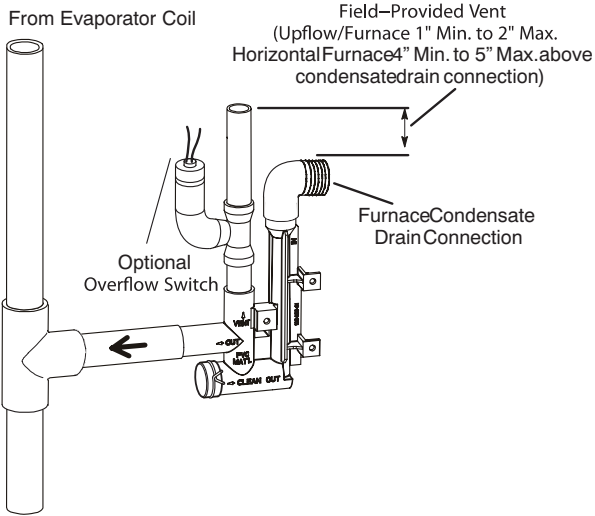
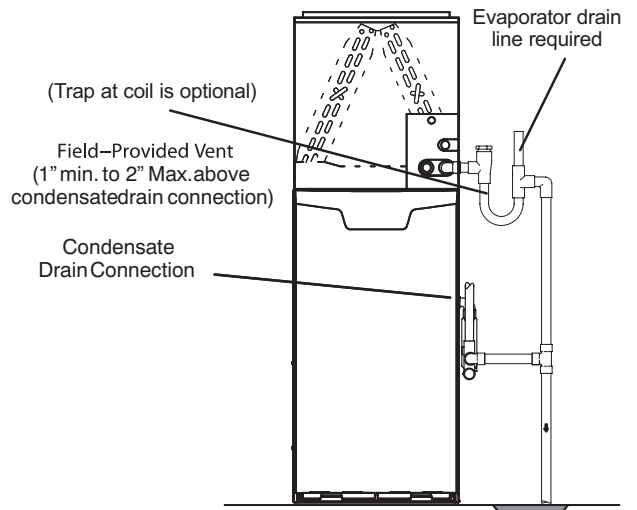

FIGURE 38
FIGURE 39
- 5 - Figures 36 and 37 show the furnace and evaporator coil using a separate drain. If necessary the condensate line from the furnace and evaporator coil can drain together. See figures 38, 39 and 40. Upflow furnace (figure 39) - In upflow furnace applications the field provided vent must be a minimum 1" to a maximum 2" length above the condensate drain outlet connection. Any length above 2" may result in a flooded heat exchanger if the combined primary drain line were to become restricted. Horizontal furnace (figure 40) - In horizontal furnace applications the field provided vent must be a minimum 4" to a maximum 5" length above the condensate drain outlet connection. Any length above 5" may result in a flooded heat exchanger if the combined primary drain line were to become restricted.